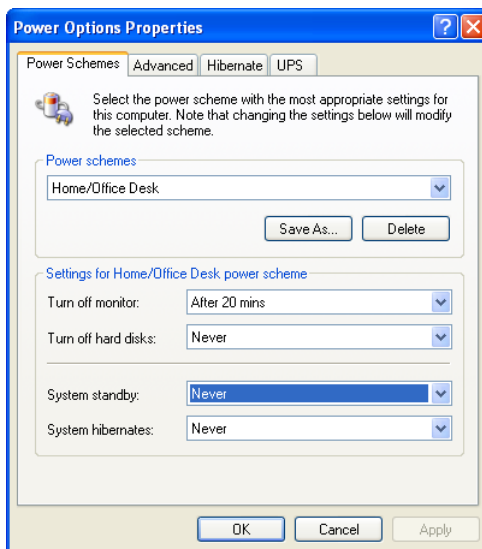

Figure 1-9 Configuring power options for Windows XP
- ◆ For Windows XP, on the Windows taskbar, select **Start > Control Panel > Power Options**, and then select **Never** for both **System standby** and **System hibernates** (see Figure 1-9 on page 31).